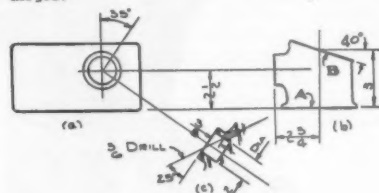

Fig. 1
The method may best be explained by an example. Refer to Fig. 1, a simplified sketch of an adapter for an aircraft carburetor. The  $\frac{1}{8}$  hole is to be drilled. Although dimensions for locating the hole are carried from face "A," it is desirable to rest on face "B" for the drilling operation in order to use a simple jig on a standard drill press.
A small sketch is made with the centerline shown in the positions shown on the part print as in Fig. 2. Since it is desired to find the angle between the centerline and face "B" of Fig. 1, further projections are made to indicate that angle as in Fig. 2.
In Fig. 2, then, view (C) indicates the section view of Fig. 1 in which the centerline is shown normal. This line is of unit length for purposes of analysis. The final view (E) also shows this line normal, or, of unit length. The required angle ( $\phi$ ) of view (E) is the required angle.
Then, if it is desired to figure any of the lengths involved for checking or detailing purposes, this may readily be done by using only the known or figured angles in one step, to get lengths that correspond with the layout of Fig. 2. To get the actual lengths to put on the drawing it is necessary (usually) to calculate the length of the centerline between two "control" points of Fig. 1 (C), and correct any figured lengths by the ratio between this calculated centerline length and the unit figure taken in Fig. 2.